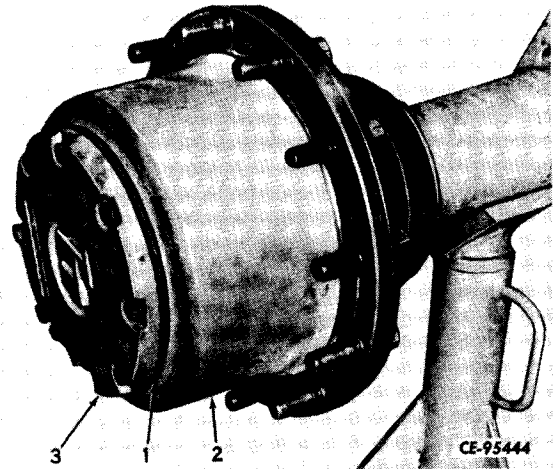

Figure 6-21
Position gasket (1, Fig. 6-21) on planetary carrier (2), with holes aligned. Install cover (3) on gasket and carrier. Install cap screws and new seal washers. Tighten to recommended torque (refer to "SPECIAL TORQUES").